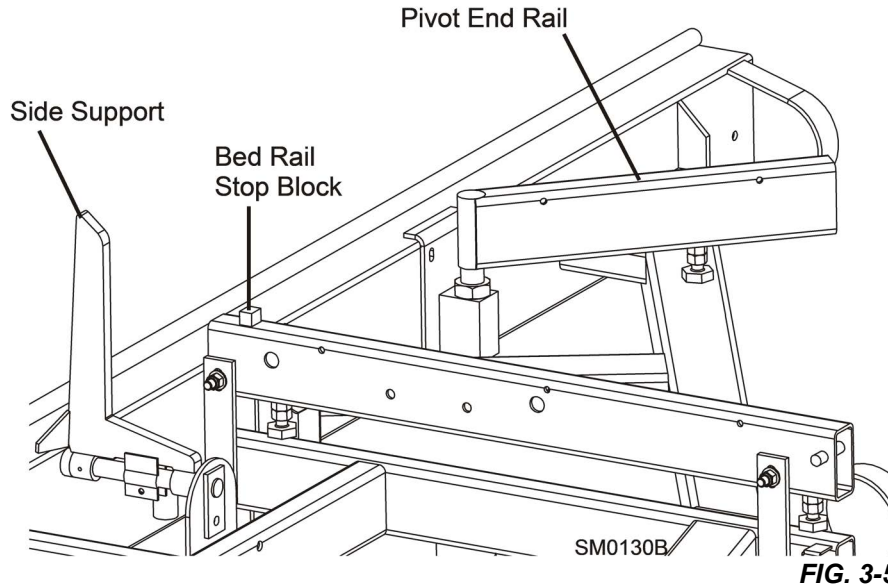

FIG. 3-5
10. Raise the two side supports to prevent the log from falling off the side of the mill when loaded. See Fig. 3-5.